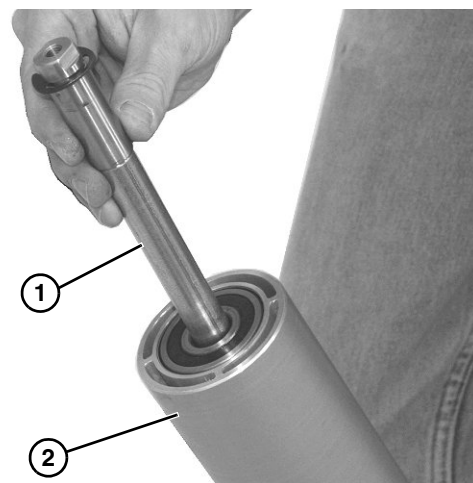

Figure 51
6. Slide the shaft assembly (**Figure 51, item 1**) out of the pulley (**Figure 51, item 2**).